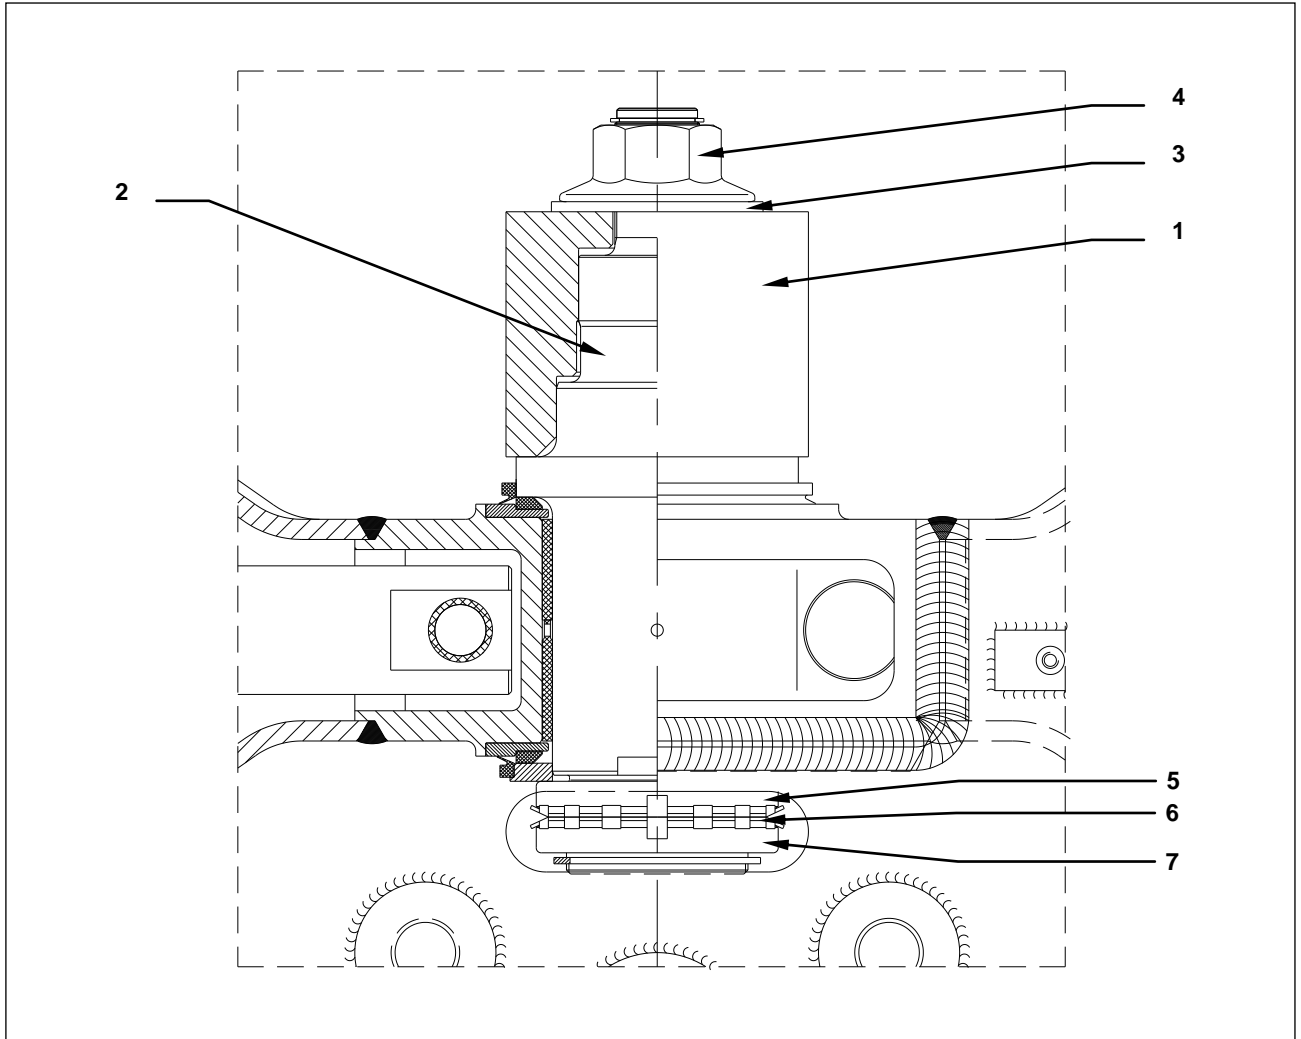

figure 1: Assembly vertical spindle main axle
- 3 Mount the vertical spindle (figure 1/2) into the main beam (figure 1/1), take care to align the spindle face with the alignment rim on the main beam.
- 4 Place the pressure washer (figure 1/3) and the flange nut (figure 1/4) over the vertical spindle.
- 2 Torque the first locking nut (figure 1/5) to 200 Nm using proper tools (SKF).
- 4 Reinstall new locking plates (figure 1/6).
- 5 Torque the second locking nut (figure 1/7) to 150 Nm using proper tools (SKF), while holding the first locking nut.